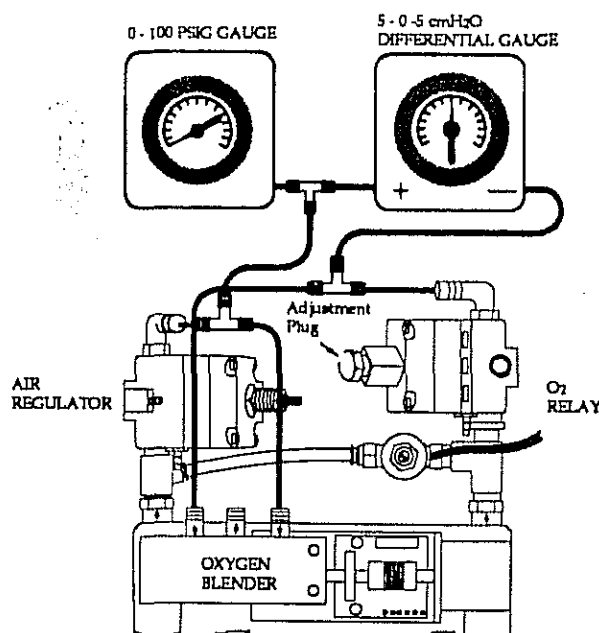

Figure 5-12
2. Connect the ventilator as shown in figure 5-12 and apply 50 psi air and O₂.